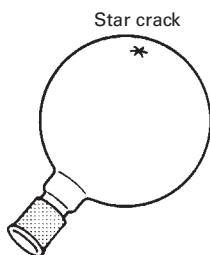

FIGURE 4.5 Round-bottom flask with star crack.
1. **Star cracks.** A little-talked-about phenomenon that turns an ordinary RB flask into a potentially explosive monster. Stress, whether prolonged heating in one spot or indiscriminate trouncing on hard surfaces, can cause a flask to develop a **star crack** (Fig. 4.5) on its backside. Sometimes a crack may be hard to see, but if it is overlooked, the cracked flask may split at the next lab.